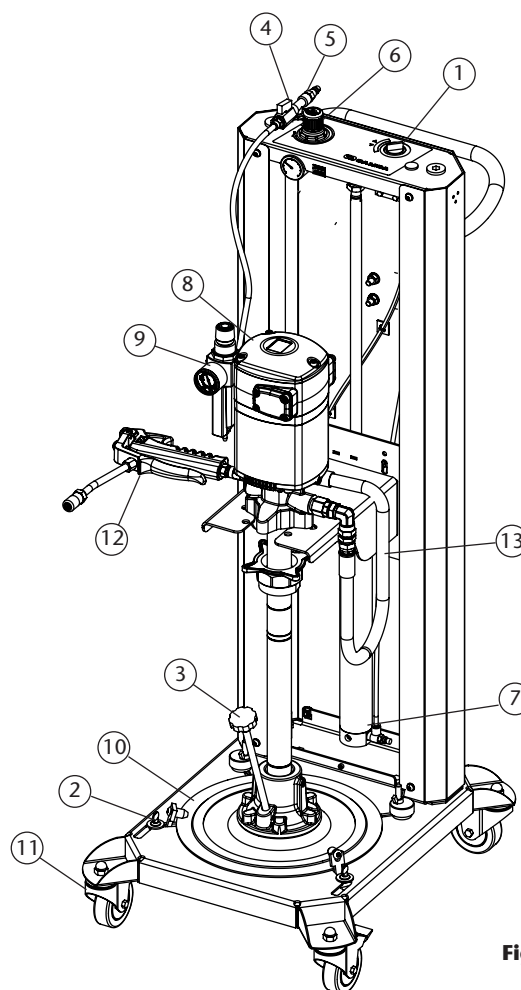
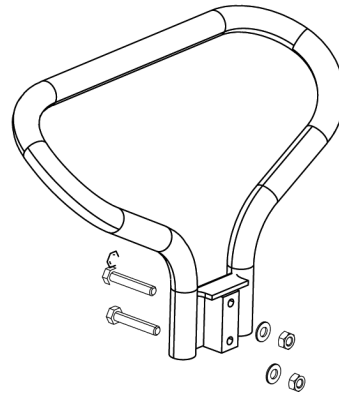

Fig. 2
Fig. 4
Once verified that the package contents all the elements, (fig. 2), and the handlebar is assembled (fig. 4), connect the air inlet to an 10 bar maximum compressed air line using the air inlet (pos. 5).